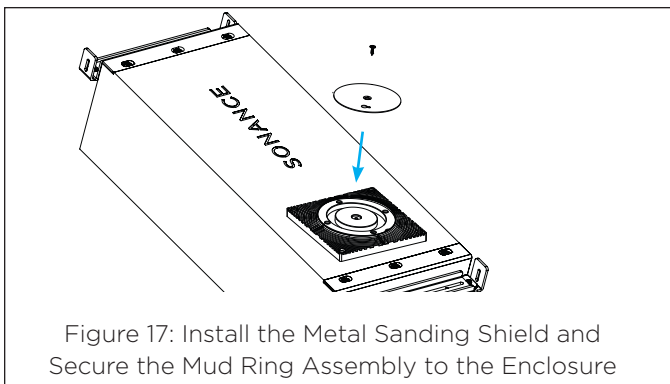

Figure 17: Install the Metal Sanding Shield and Secure the Mud Ring Assembly to the Enclosure
7. Fasten the mud ring at all four corners using the included wood screws (see Figure 17).